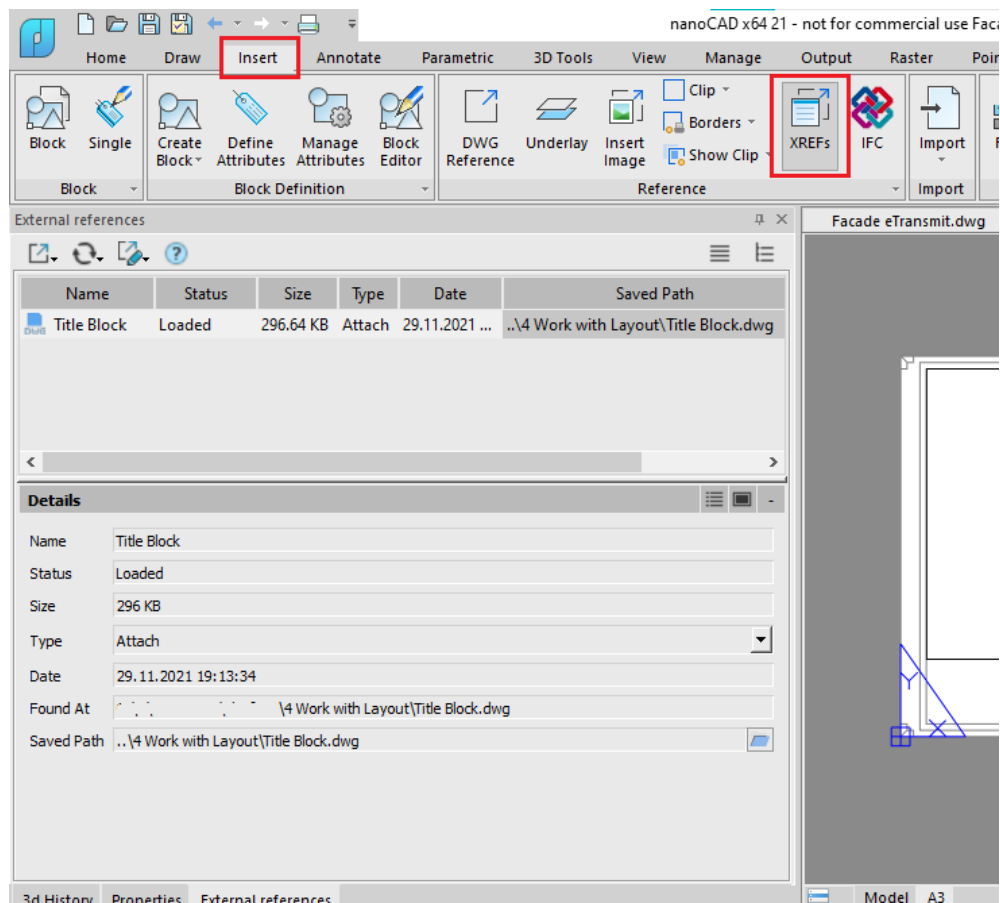

Fig. 44. The External references toolbar
5.1. Open the **External References** toolbar (fig. 44):